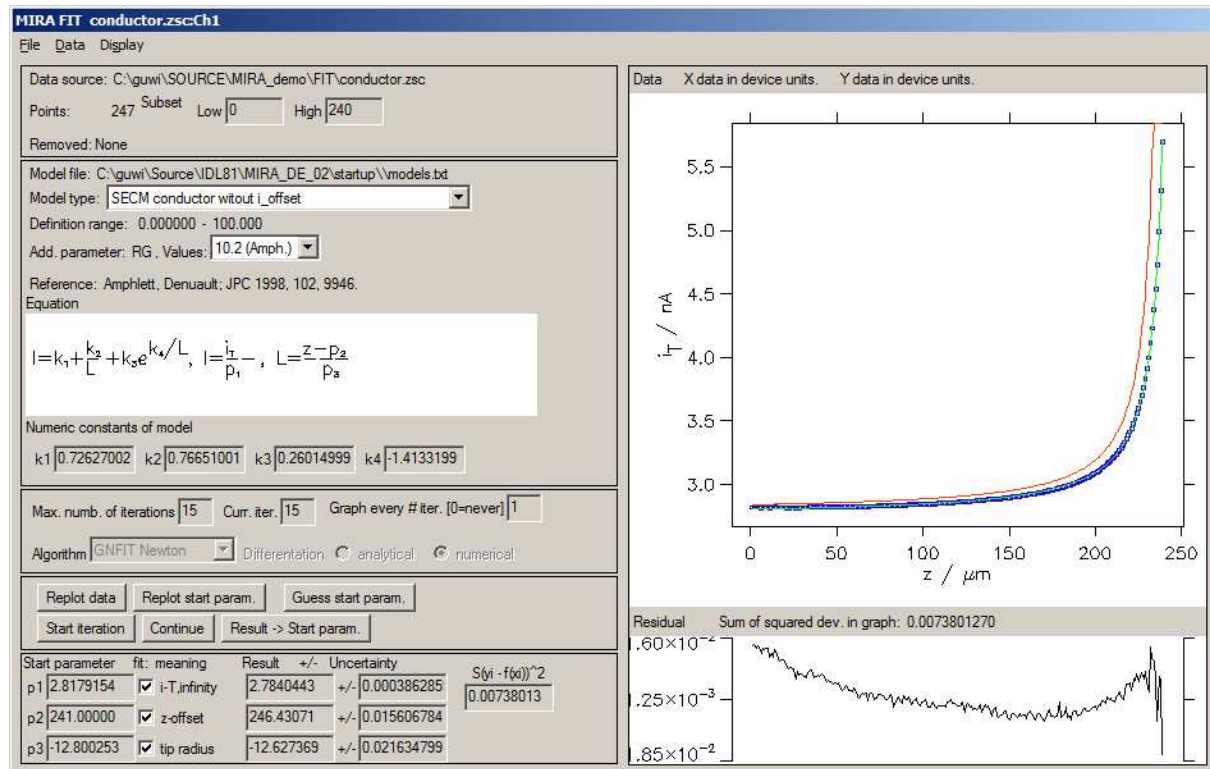

Fig. 116: Screenshot after <Start iteration>.
If the start parameter are sufficiently close (what is "close" may depend on the model), the fit can be started by <Start iteration>. If the result is not sufficient, iterations can be continued by <Continue>. If the model shall be refined with a different model, or algorithm (currently disabled) the result can be made the new start parameter by <Result->Start param.>. For the example the result of the fitting looks like Fig. 116. The model with the optimized parameters is plotted in Green. The optimised parameters are plotted in the table together with an estimation of the uncertainty of each parameter. The estimates are given as  $\pm$  one standard deviation.
*SECM data interpretation:* gives the distance of the closest point of the data fitted set to the surface in real and normalized coordinates. In the example the point right at the display in Fig. 116 has a distance of 5.53  $\mu\text{m}$  to the surface.